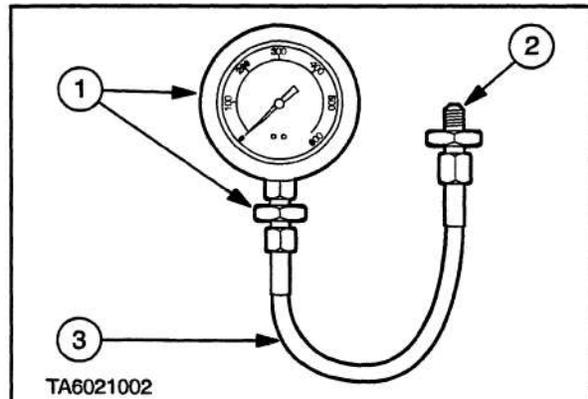

Figure 4-4-11
2. Install suitable pressure gauges, (0–600 lbf/in2, 0–40 bar), Figure 4-4-11.